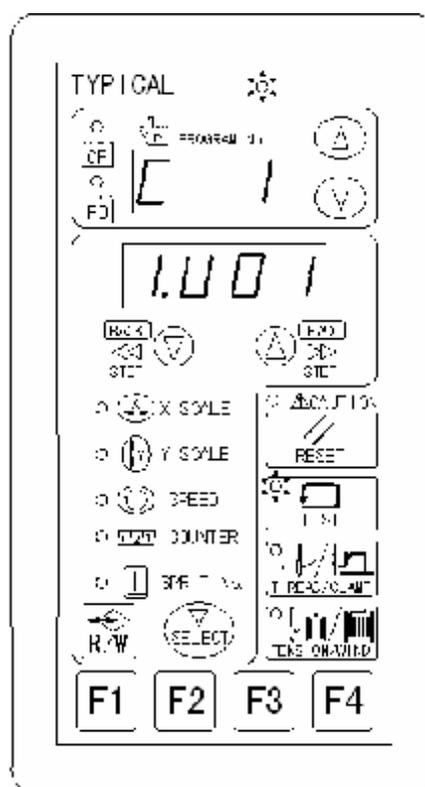

Fig. 5-27
2. As shown in Fig. 1, [C 1] shows cycle program 1, [1. U--] shows the preset program directed in cycle program 1. At this time, press **BACK STEP** or **FWD STEP** key to select preset program number so as to select preset pattern [U 1]. Now the operation panel is as shown in Fig. 5-27.